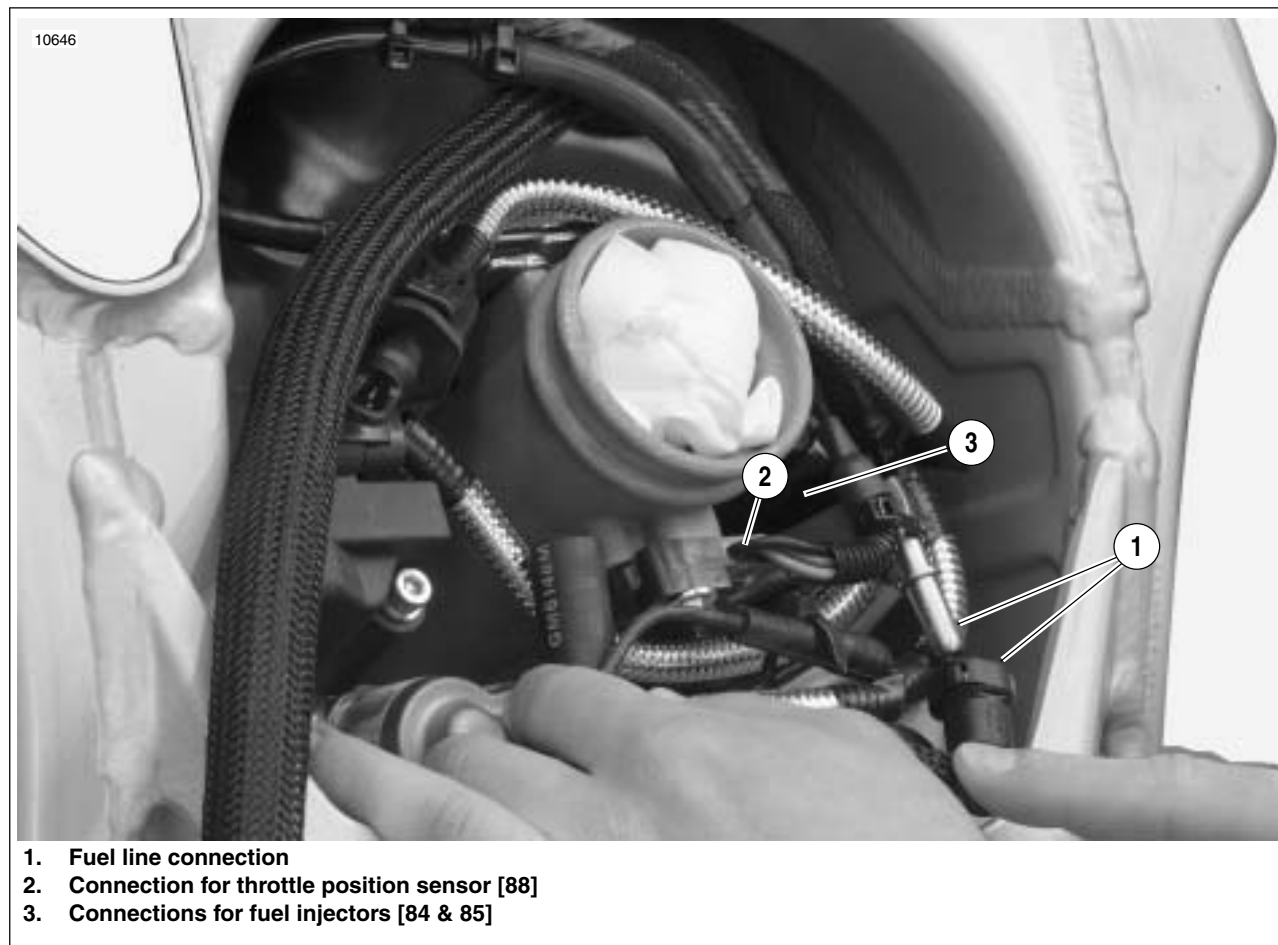

Figure 3-16. Fuel Line and DDFI Electrical Connections (Typical)
- Install shop towel in entrance to throttle body to prevent objects from falling into the induction module. See Figure 3-16. Disconnect fuel line.